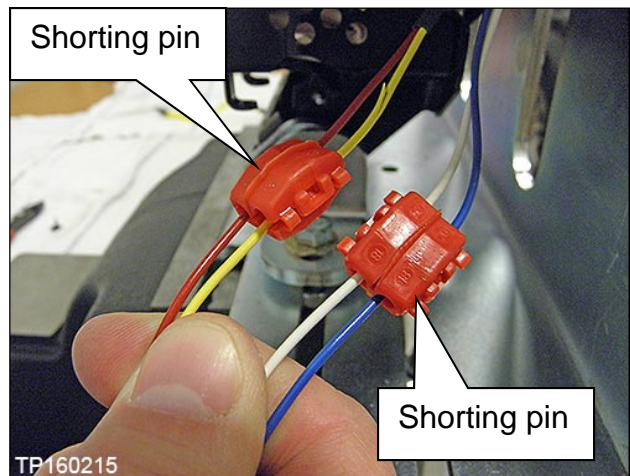

Figure 34
31. Attach the two shorting pins to the inflator harness as shown in Figure 34.